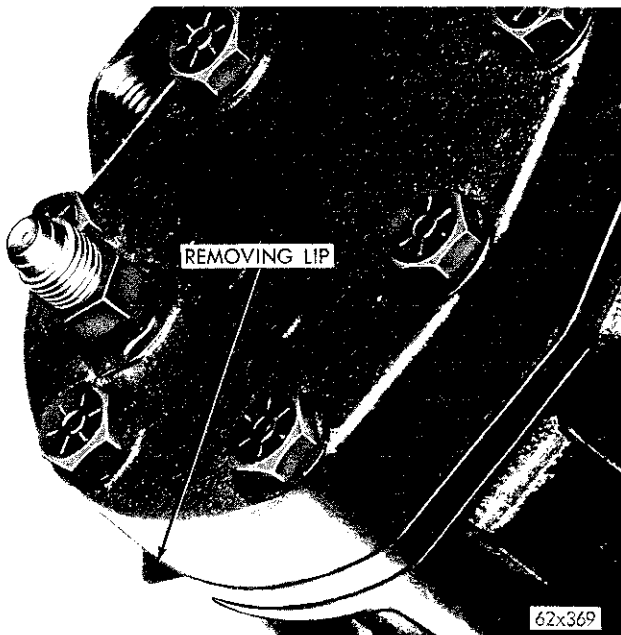

Fig. 36—Valve Plate and Head Removing Lip
(1) Remove the cylinder head bolts, the head and valve plate assembly. If the plate does not separate from the head, tap the removing lip on the valve plate lightly with a plastic hammer (see Fig. 36). Do not pry apart.